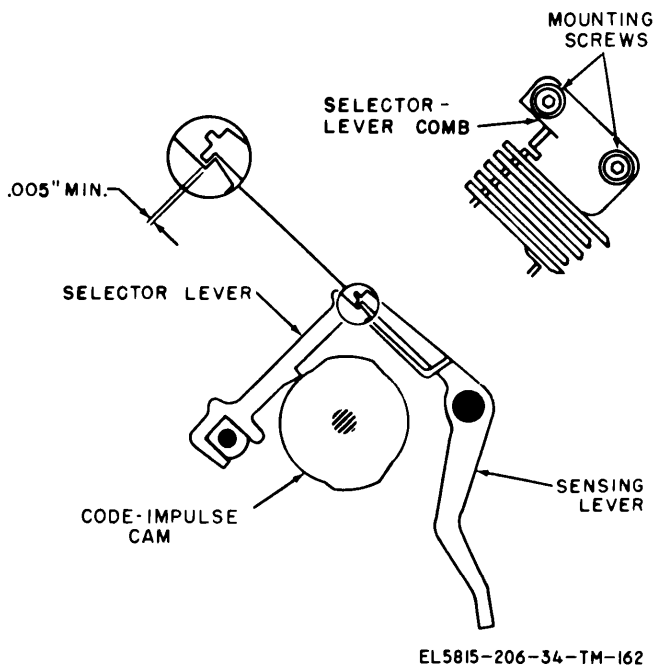

Figure 3-90. Selector-levers and sensing-levers clearance adjustment.
**3-122. Selector-Levers and Sensing-Levers Clearance Adjustment (fig. 3-90)**